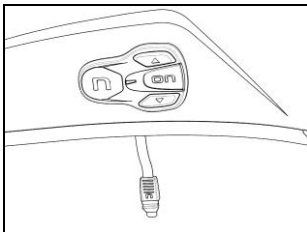

Fig. 27
- Apply the keypad to the shell and press down on its entire surface to make sure that it sticks properly (Fig. 27).